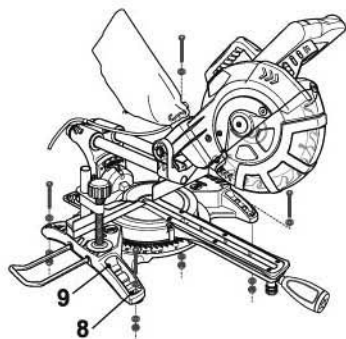

Fig. 12
**NOTE:** Before fixing the product on a bench or work table, remove the rubber feet from the mounting holes (8).
1. There are mounting holes (8) at each corner of the base (9) to facilitate bench mounting. Place the product on a level, horizontal bench or work table and fix the product on it using 4 bolts (not provided). (Fig. 12)